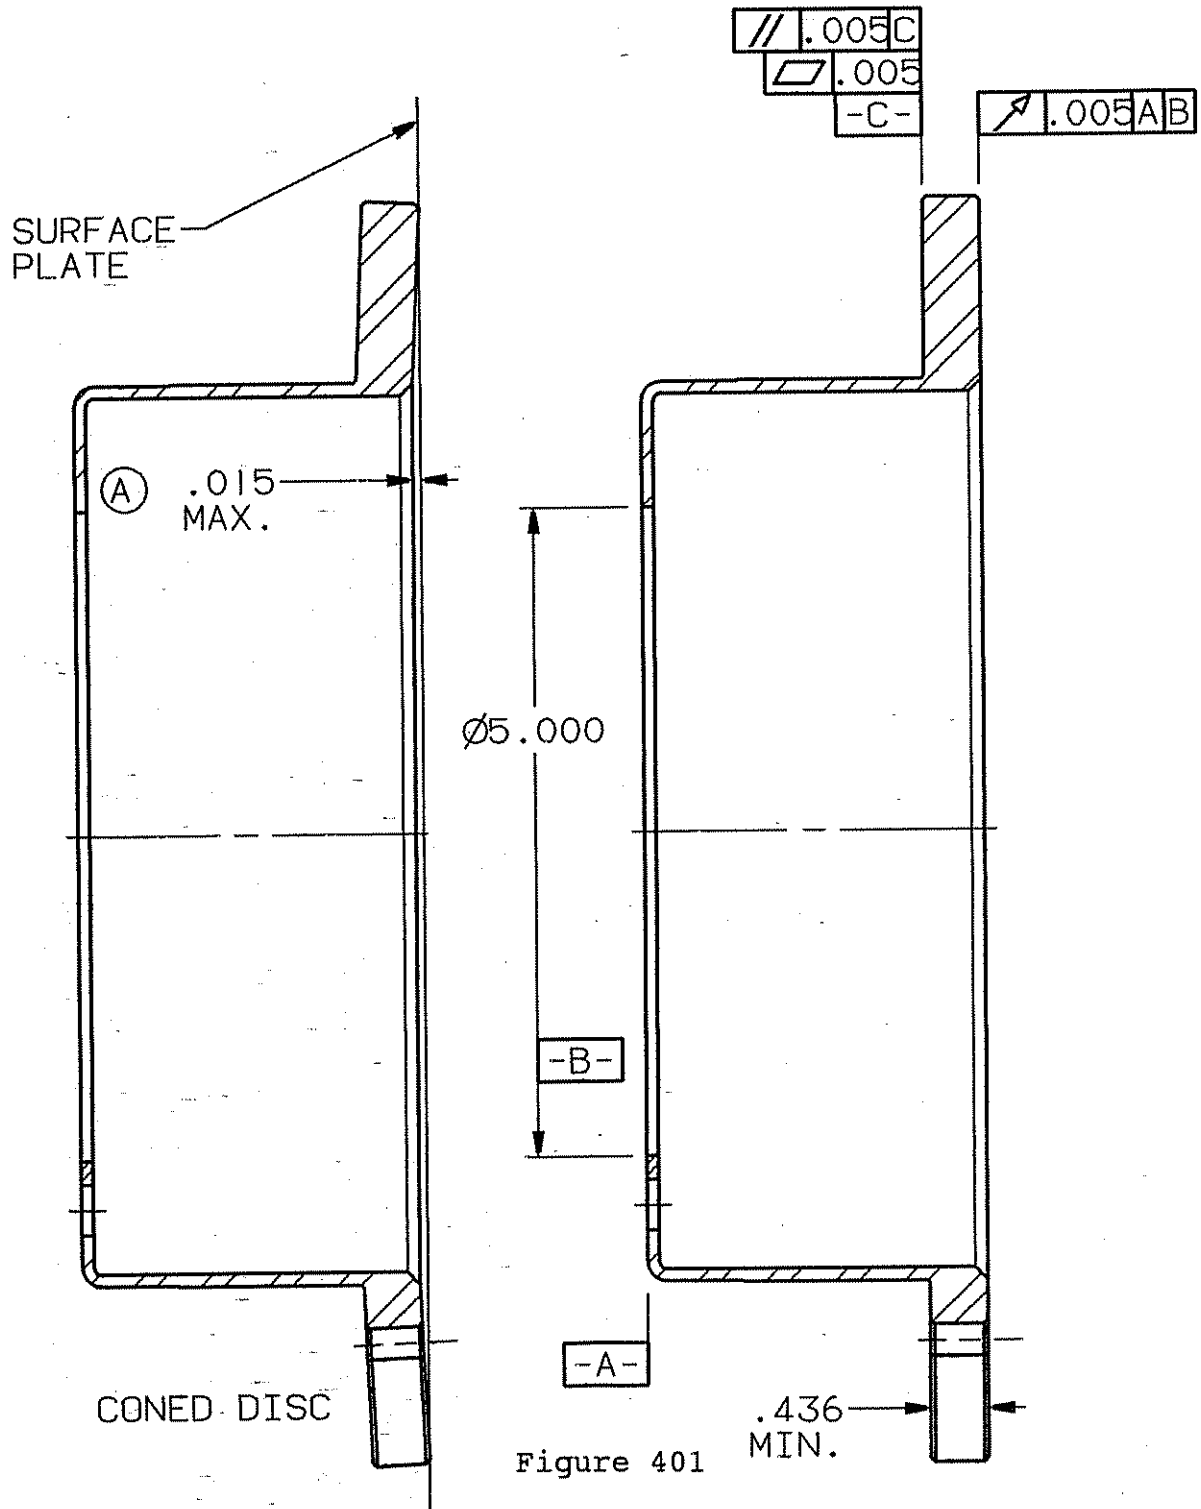

Figure 401
- E. Check brake disc thickness (See Figure 401). If the thickness is less than .436 in. then replace the brake disc. If the brake disc thickness varies by more than .0015 in., is out-of-flat by more than .005 in., is "coned" by more than .015 in., or has more than .005 in. run-out with respect to the surface that interfaces with the wheel, then the disc may be turned to conform to the above specifications provided that the thickness resulting from the turning operation is greater than .436 in. .